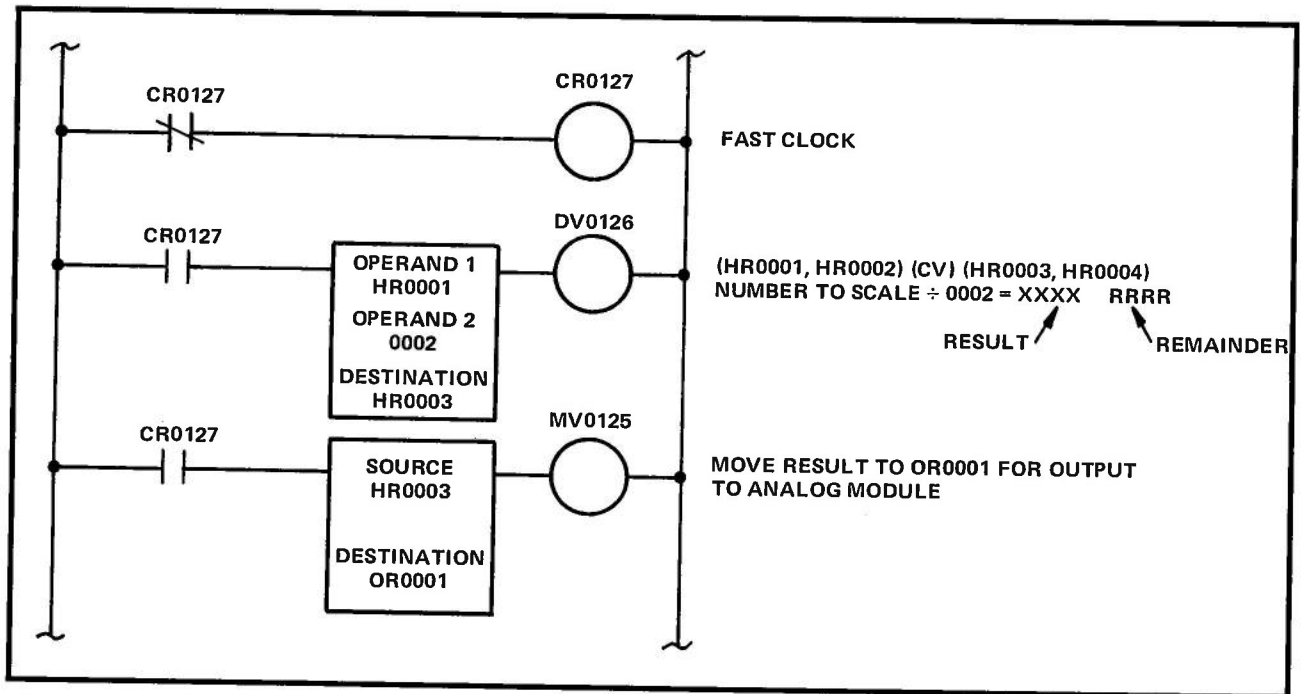

Figure 2. MV Application
The Divide (DV) function illustrates the usefulness of the MV function in conserving register space. Rather than using two output registers for the DV result and the remainder when only the result is desired, a pair of holding registers is used as the destination. The result is moved only to the output register as shown in Figure 2.